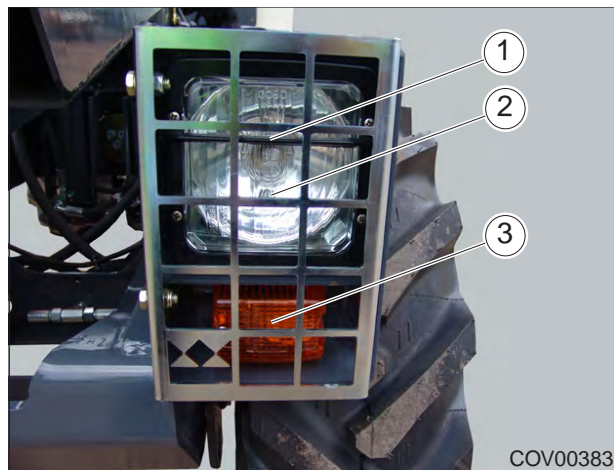

Figure 4.12 - Front light cluster
(1) Front Lighting
Each front light cluster, Figure 4.12, contains a headlight (1), side light (2) and a direction indicator light (3).